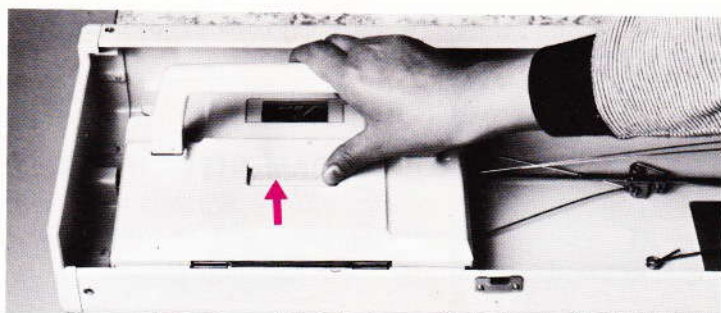

Fig. 9
- Take the lace carriage out of the cover. To release it press the bar as illustrated (fig. 9).